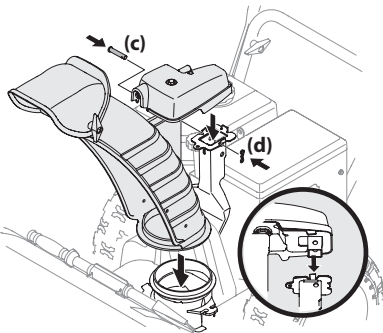

Figure 2-22
- 2. Place chute assembly onto chute base and secure chute control head to chute support bracket with clevis pin (c) and cotter pin (d) removed in Step 1. See Figure 2-22.